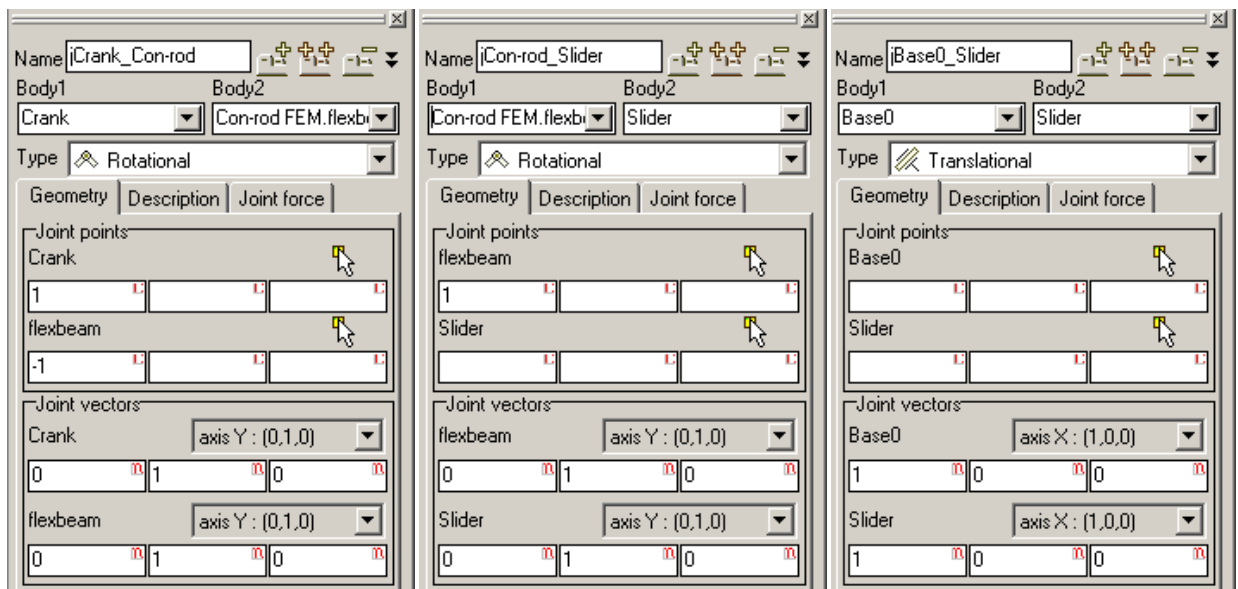

Figure 1.21.
4. Add the rest three joints as it is shown in the figure 1.21.